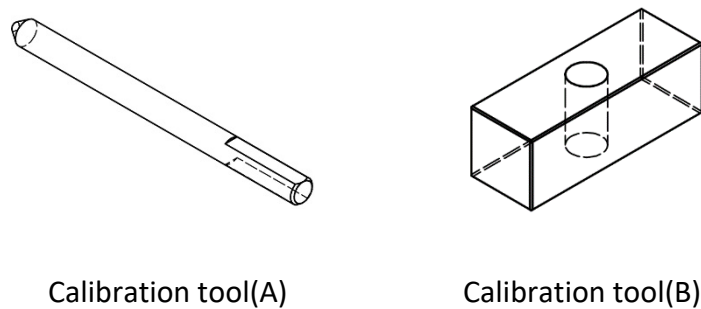
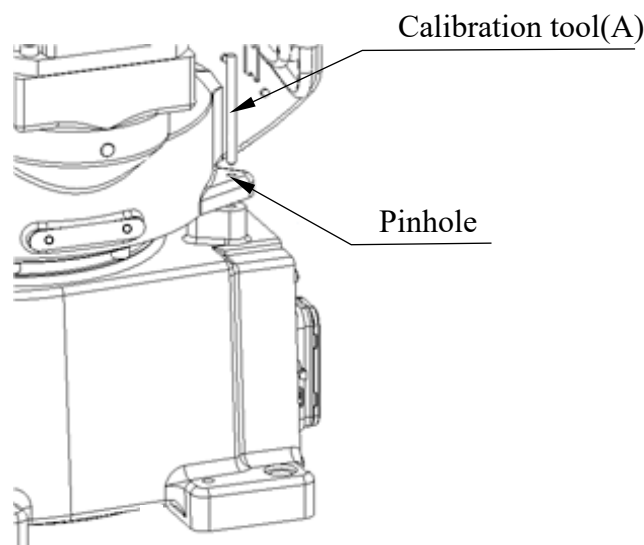
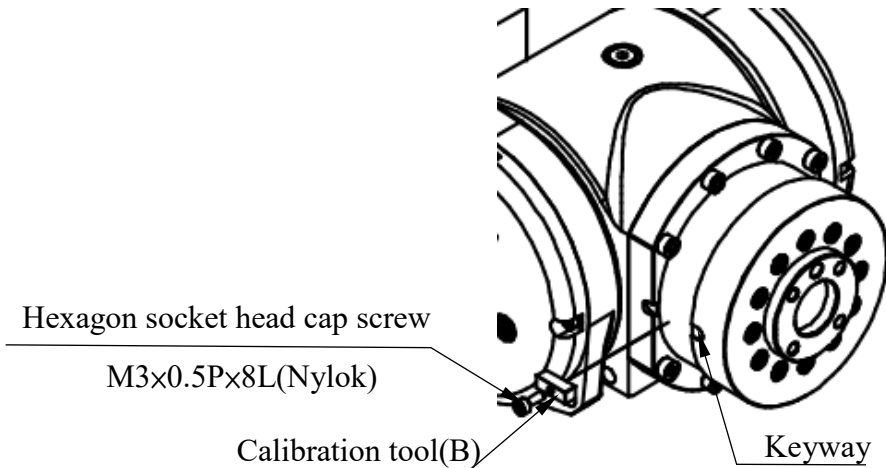

Figure 4-1 The calibration tool set
Figure 4-2 Illustration of J1-axis Zero- position setting
Figure 4-7 Illustration of J6-axis Zero- position setting
The calibration tools (HIWIN part No.: RA610Z231-3) for setting Zero-position are shown in Figure 4-1. The robot should be adjusted to the minimum speed during the calibration, and aligns the pinhole with the calibration tool to set up the Zero-position. The procedure of resetting Zero-position with the calibration tools is shown in Figure 4-2 to Figure 4-7 below.
- J1-axis Zero-position setting (please refer to the Figure 4-2)
- Step2. Insert the calibration tool(A) to the pinhole to calibrate Zero-position.
- J6-axis Zero-position setting (please refer to the Figure 4-7)
- Step2. Insert the calibration tool(B) to the keyway to calibrate Zero-position. (The hexagon socket screw can be secured to the calibration tool(B) in advance.)
- Step3. Finish calibration and remove the calibration tool(B) by using the hexagon socket screw.